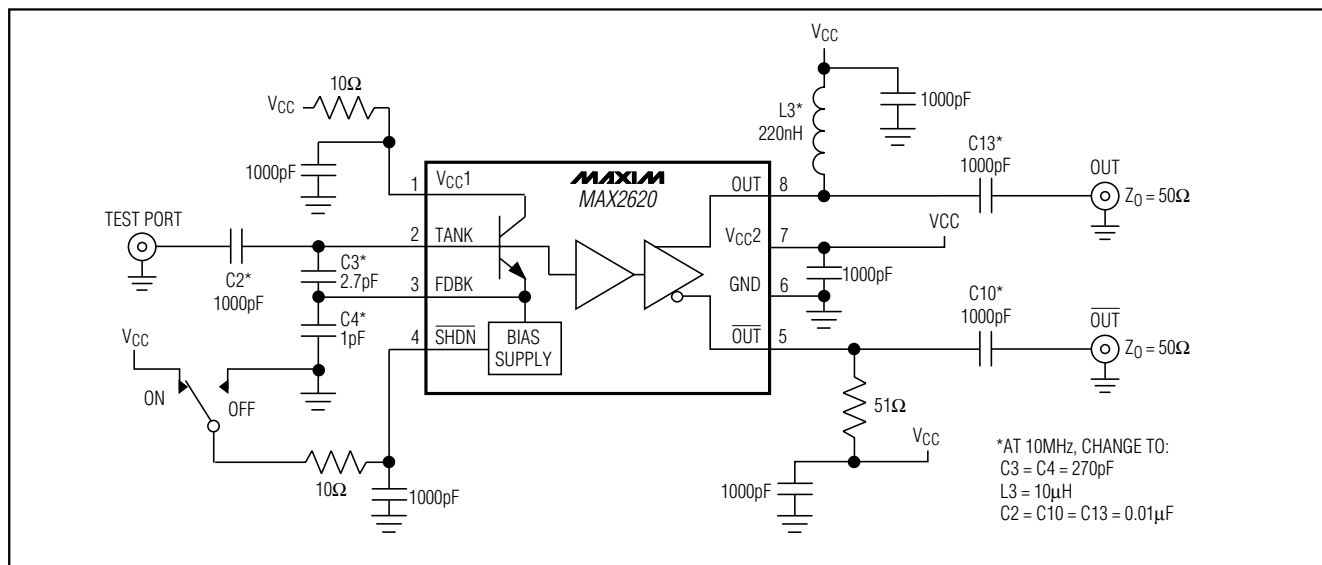
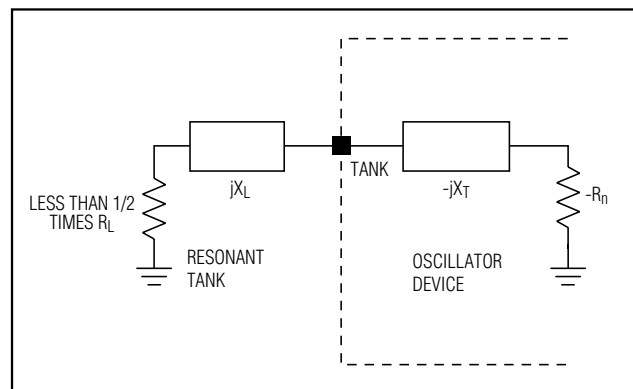

Figure 1. 900MHz Test Circuit
Figure 2. Simplified Oscillator Circuit Model
(Test Circuit of Figure 1, V_{CC} = +3.0V, $\overline{\text{SHDN}}$ = V_{CC}, Z_{LOAD} = Z_{SOURCE} = 50Ω, P_{IN} = -20dBm (50Ω), f_{TEST} = 900MHz, T_A = +25°C, unless otherwise noted.)
(Test Circuit of Figure 1, $V_{CC} = +3.0V$, $\overline{SHDN} = V_{CC}$, $Z_{LOAD} = Z_{SOURCE} = 50\Omega$, $P_{IN} = -20dBm/50\Omega$, $f_{TEST} = 900MHz$, $T_A = +25^\circ C$, unless otherwise noted.)
*SEE FIGURE 1
At the frequency of interest, the MAX2620 portion of Figure 2 shows the one-port circuit model for the TANK pin (test port in Figure 1).
For the circuit to oscillate at a desired frequency, the resonant tank circuit connected to TANK must present an impedance that is a complement to the network (Figure 2). This resonant tank circuit must have a positive real component that is a maximum of one-half the magnitude of the negative real part of the oscillator device, as well as a reactive component that is opposite in sign to the reactive component of the oscillator device.
Both of the MAX2620’s outputs (OUT and $\overline{\text{OUT}}$) are open collectors. They need to be pulled up to the supply by external components. An easy approach to this pull-up is a resistor. A 50Ω resistor value would inherently match the output to a 50Ω system. The *Typical Operating Circuit* shows $\overline{\text{OUT}}$ configured this way. Alternatively, a choke pullup (Figure 1), yields greater output power (approximately -8dBm at 900MHz).